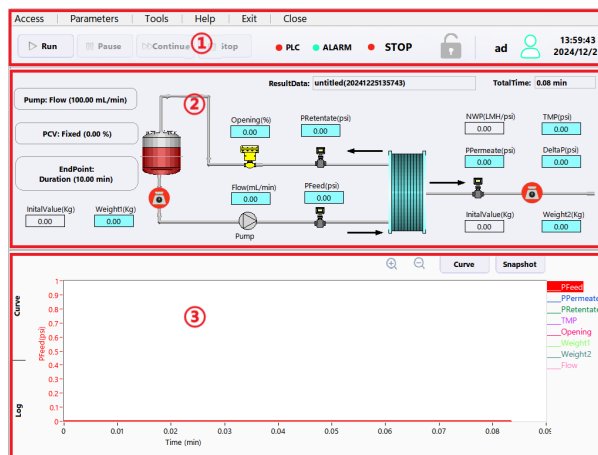

Figure 25. Main interface
The main interface consists of 3 parts, ① function control area, ② process control area, and ③ status display area, as shown in Figure 25 below.